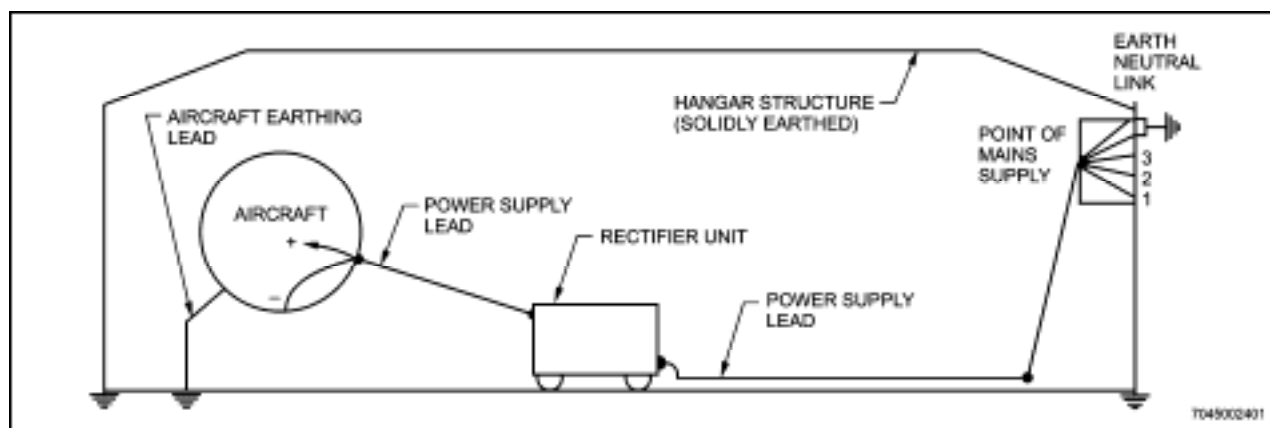
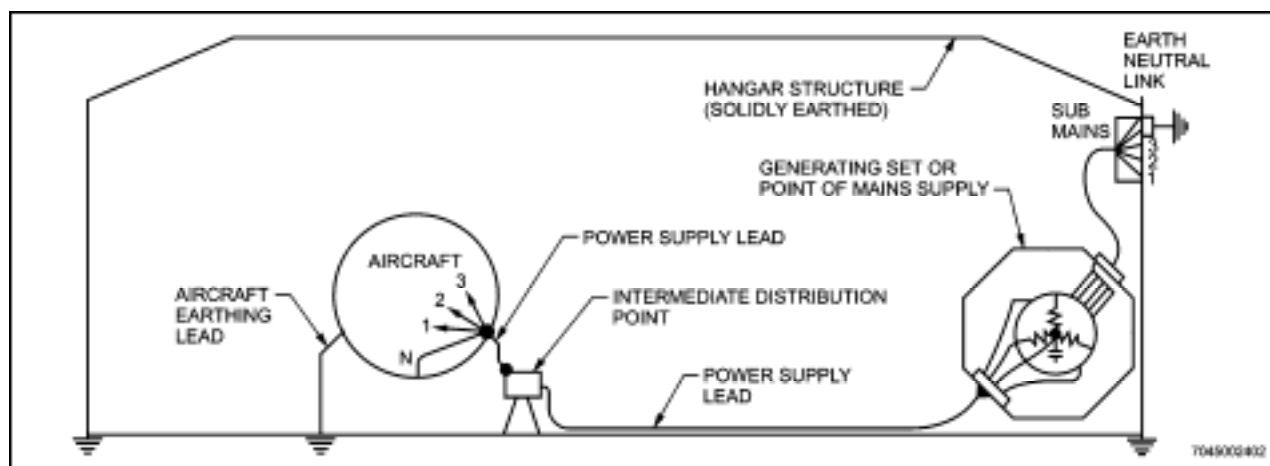

Figure 14-2 Mobile Rectifier/Frequency Converter Aircraft External Power Supply
Figure 14-3 Reticulated Aircraft External Power
21. Illustrated in Figure 14-2 and Figure 14-3 are the two static aircraft external power supply situations, and the correct connections to ensure equipment and personnel safety.